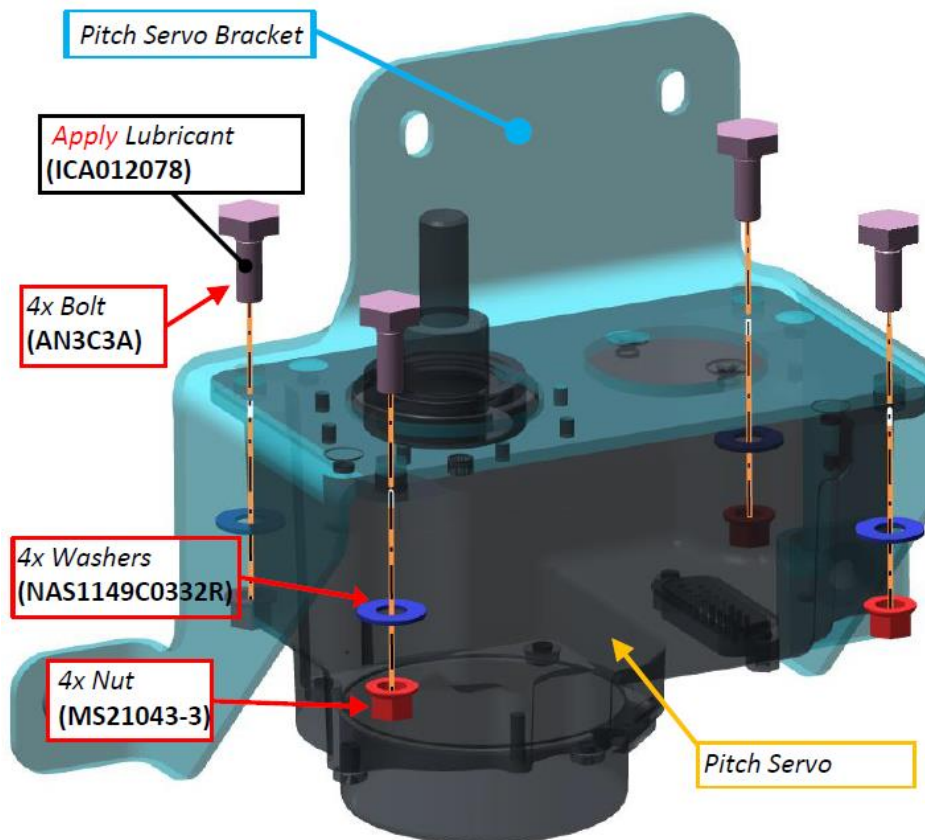

Figure 8 Pitch Servo Bracket Subassembly
7. Install 4x Bolts, 4x washers (NAS1149C0332R) and 4x nuts (MS21043-3) (see Figure 8)